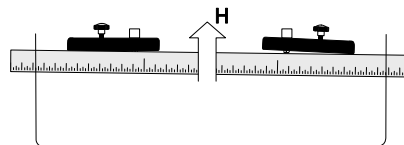
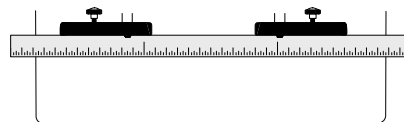
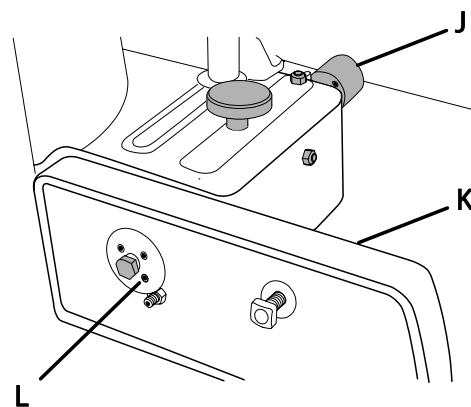

Figure 7
Figure 8
Figure 9
6. Remove both fences and place the straightedge against the infeed and outfeed fence castings (Figure 7).
8. Maintain steady pressure of the straightedge against the fence castings (H, Fig. 7). At the same time, attempt to bring both fences into alignment as shown in Figure 8. This is accomplished by alternately making incremental adjustments to four *setscrews* (L, Fig. 9) on the front face of the *casting* (K, Fig. 9) with a 2mm hex wrench, followed by repositioning the casting with the *micro adjust dial* (J, Fig. 9) as required.
Important: It is recommended that the adjustment setscrews (K, Fig. 9) be rotated in 1/16th increments or less at a time.
Alignment is complete when the skewed and reference fence castings are coplanar (in-line) as shown in Figure 8.